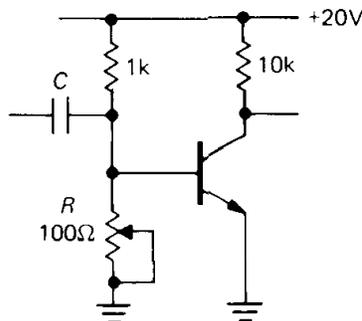

Figure 2.82
(7) Disregarding the lessons of this chapter, a disgruntled student builds the amplifier shown in Figure 2.82. He adjusts R until the quiescent point is  $0.5V_{CC}$ . (a) What is  $Z_{in}$  (at high frequencies where  $Z_C \approx 0$ )? (b) What is the small-signal voltage gain? (c) What rise in ambient temperature (roughly) will cause the transistor to saturate?